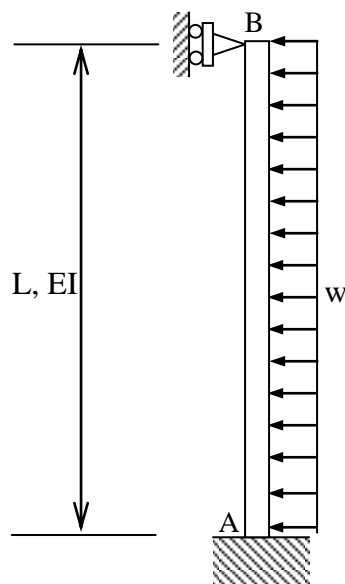

Figure 2.0 (a)
2. (a) Figure 2.0 (a) shows a propped cantilevered column subjected to a uniformly distributed load  $w$ . Supports A and B are of fixed and roller types, respectively. Derive the expression for reaction at support B by using method of least work.
- (b) Figure 2.0 (b) shows the design proposal for L-frame ABC. In this design proposal, support A is fixed and support C is of pin type. The load carried by the L-frame is a uniformly distributed load of 15kN/m acting on member BC and a point load of 30kN acting at joint B. Moment inertia of sections used for member AB and BC are  $I$  and  $1.5I$ , respectively. The reaction forces for this frame have been calculated and the values are as shown in Table 2.0. Immediately after construction, it has been found out that horizontal restraint of support C does not function. As a structural engineer, you have been asked to carry out analysis to investigate the effect of such change in support condition on the reaction forces. Calculate the percentage change in the magnitude of support reactions at A as a results of the failure of support C to provide horizontal restraint.